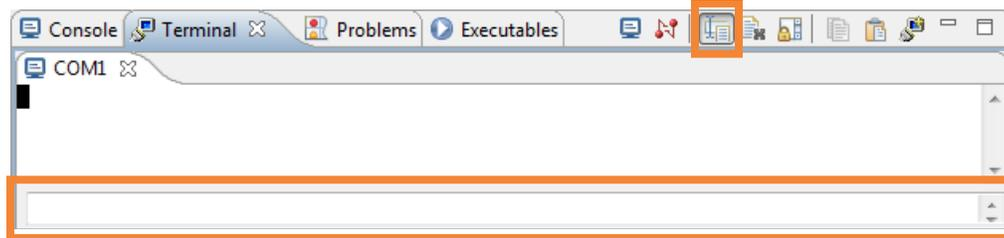

Figure 3.40. Terminal View
5. (Optional) Click the **Toggle Command Input** icon that adds an edit box to enter text (Figure 3.40).